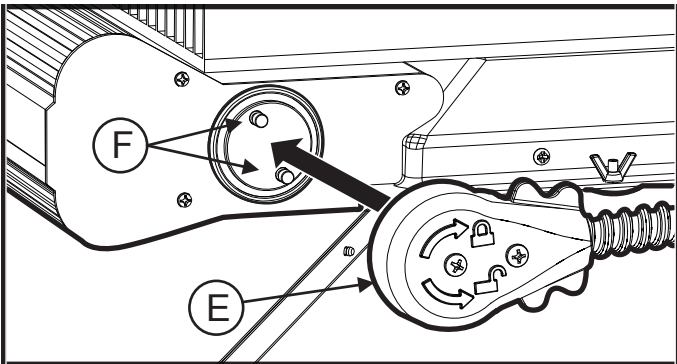

Figure 4
- To connect power to the light engine, align the GU24 connector whip “E” (see Fig 4) with the GU24 pins “F” on the light engine.